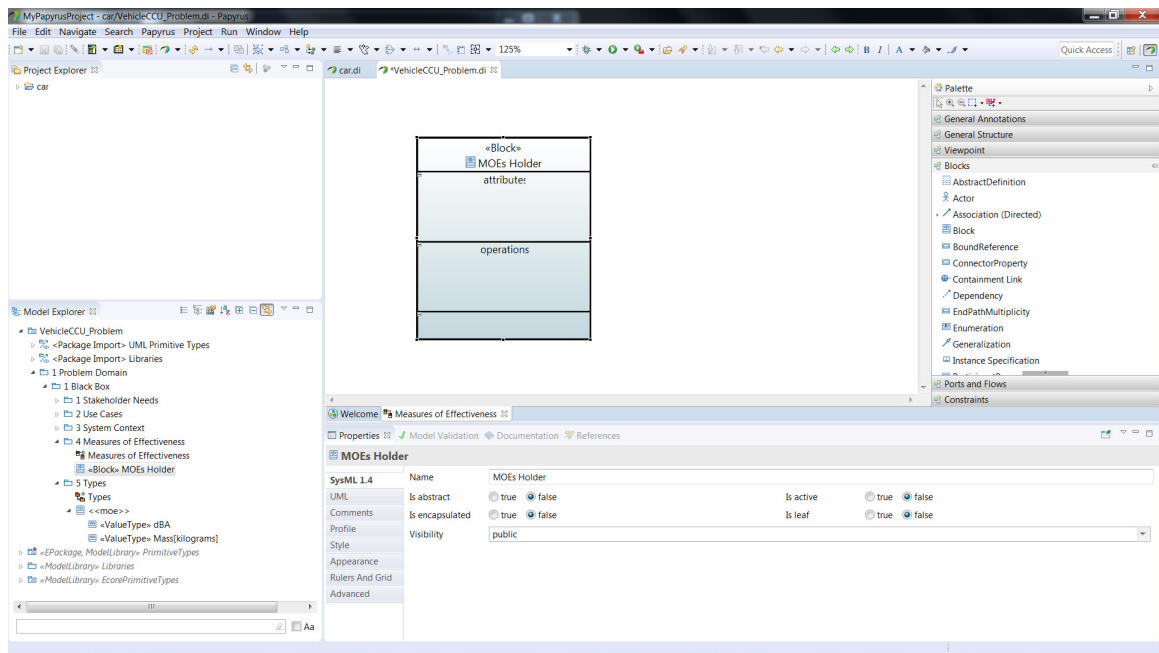

Figure 80: *MOEs Holder* Block.
7. Now we will create a block to hold our MOE's. Using the **Blocks** tool palette on the right, click on **Block** and then click anywhere inside the *Measures of Effectiveness* block definition diagram in the main window to create the new block. Name this block *MOEs Holder* (figure 80).